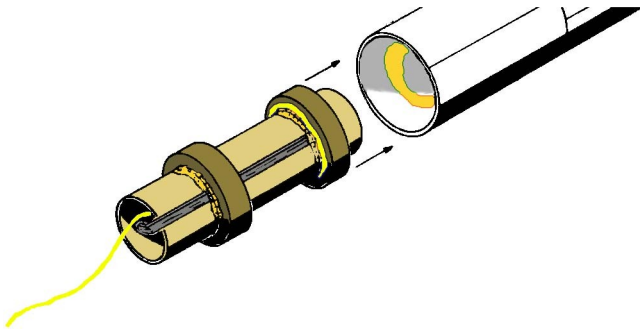

Figure 8
- **Step 17** Push the Kevlar thread down through the center of the EM-710 mount from the front and pull tight. Apply a bead of full-strength glue inside the body tube at the rear, about 1.5" up, as shown in Fig. 8. Insert the front end of the mount into the bottom of the body tube and push forward with a smooth, continuous motion until the bottom of the motor tube is even with the bottom of the body tube. Do not stop during this process, or the mount will 'freeze' in the wrong place. Allow to dry.